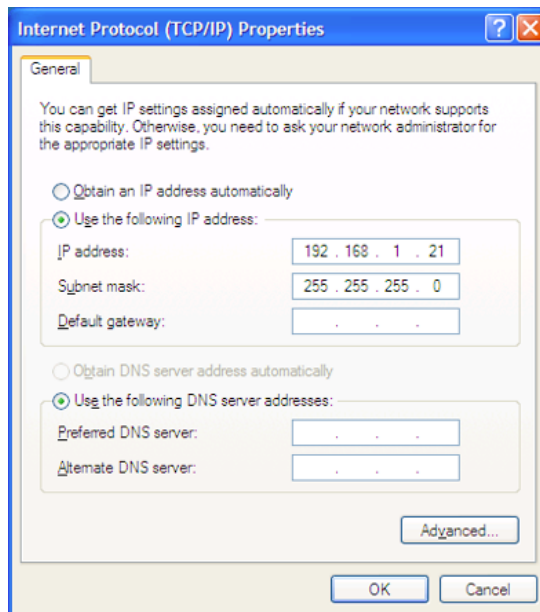

Figure 9. The Internet Protocol Properties Dialog Box
4. In the panel labeled This connection uses the following items:, select the Internet Protocol (TCP/IP) item to highlight it, and click the Properties button. The Internet Protocol (TCP/IP) Properties dialog box appears (Figure 9).